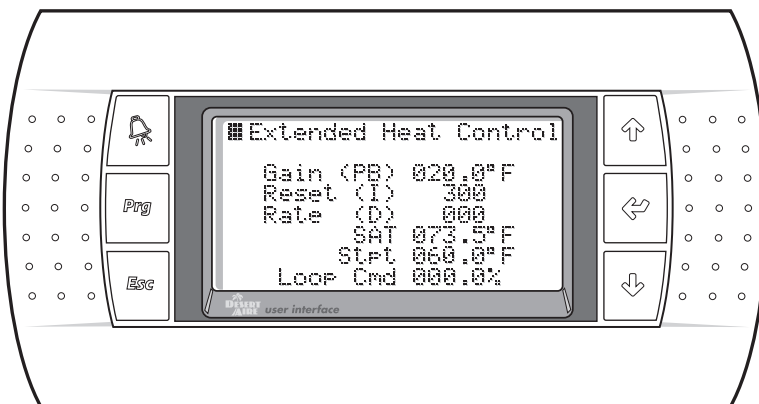

Figure 58
2.6.2.3 Extended Heat Control Settings (Figure 58)